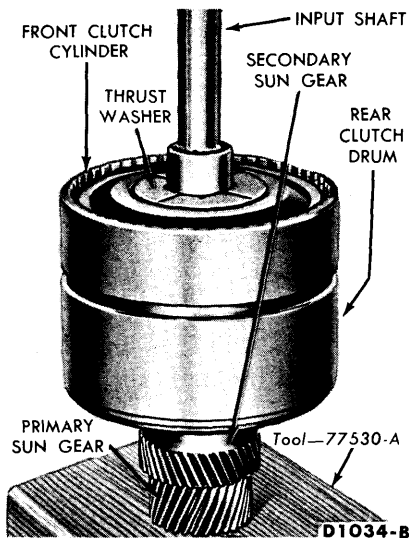

FIG. 29—Input Shaft and Clutch Mounted in Holding Fixture
19. Install the clutch assemblies in the bench fixture (Fig. 29).